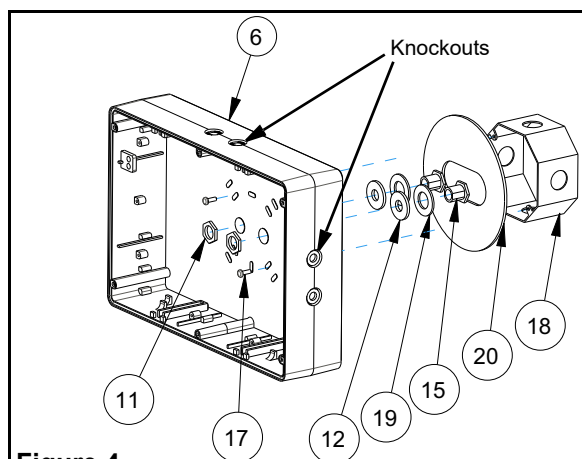

Figure 4
For **Nexus** wired option, install the liquidtight® fitting, provided with the unit. For Ceiling mount, use the knockout located on side of the unit (opposite side of the diagnostic display). For Side mount, use the knockout located on top of the unit (see fig. 4).
- a. Remove the backplate from the packaging. Determine the proper knockouts to remove for mounting to a junction box (see fig.4). For **Nexus** wired option, install the liquidtight® fitting, provided with the unit (see fig. 4).
- c. Mount parts 11, 12, 15, 17 & 19 to backplate, as shown in fig. 4, and reinstall the backplate to the frame using the 4 tamper-proof screws (use the supplied bit).